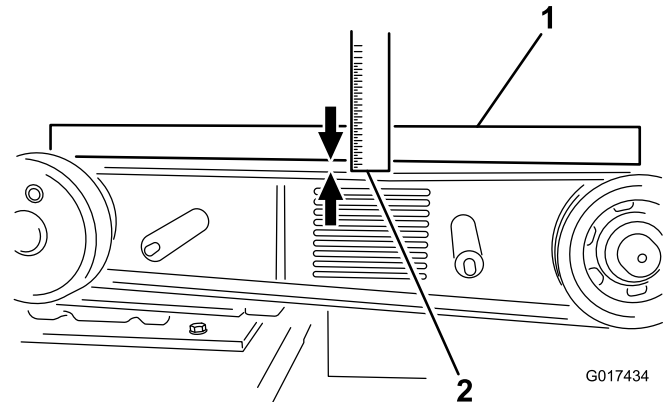

Figure 19
6. Lay a straightedge across clutch and flywheel pulleys, tighten belt tension bolt so there is 1 cm (0.40 inch) of flex in the belt when pushing down with 6.8 kg (15 lb) force, at mid-span (when re-tensioning a belt in use) or with 8 kg (18 lb) force when installing a new belt (Figure 19).